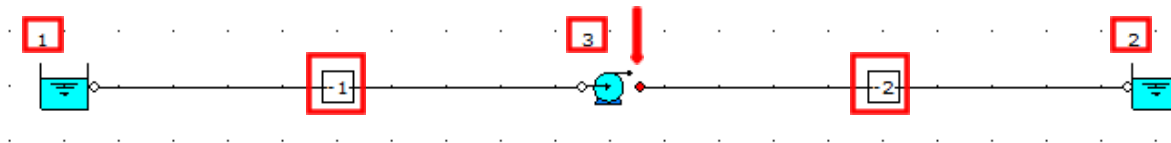
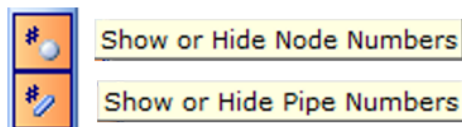

Figure 8: Hydraulic Model.
Figure 9: Show or Hide Node/Pipe Numbers buttons.
**Note:** The **RED** dot on the centrifugal pump (Figure 8) indicates the discharge side.
- At this stage, we will notice that the software automatically assigns a unique *User Number* (reference number) to each node placed on the flowsheet. All boundaries and fittings have positive *User Numbers* whereas all pipes have negative *User Numbers*. In Figure 8, we can see that the inlet boundary, outlet boundary, and centrifugal pump are assigned with *User Numbers* “1”, “2”, and “3”, respectively. The suction and discharge pipes are assigned with *User Numbers* “-1” & “-2”, respectively. Note, if these reference values have not appeared automatically, they may be toggled off. You can toggle these back on by selecting the buttons to the left of the flowsheet titled “Show or Hide Node Numbers” and “Show or Hide Pipe Numbers”. The buttons appear as follows (Figure 9):